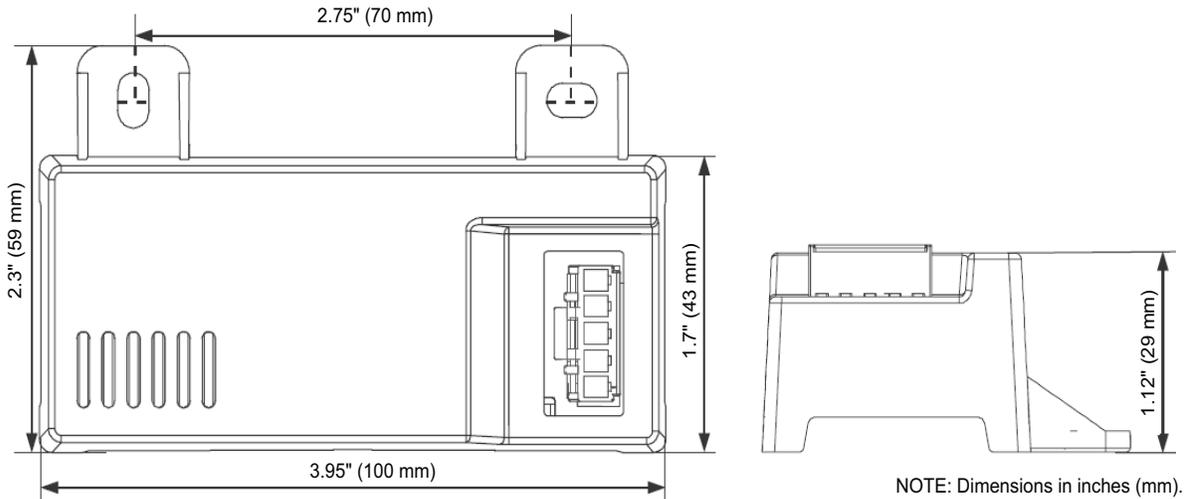
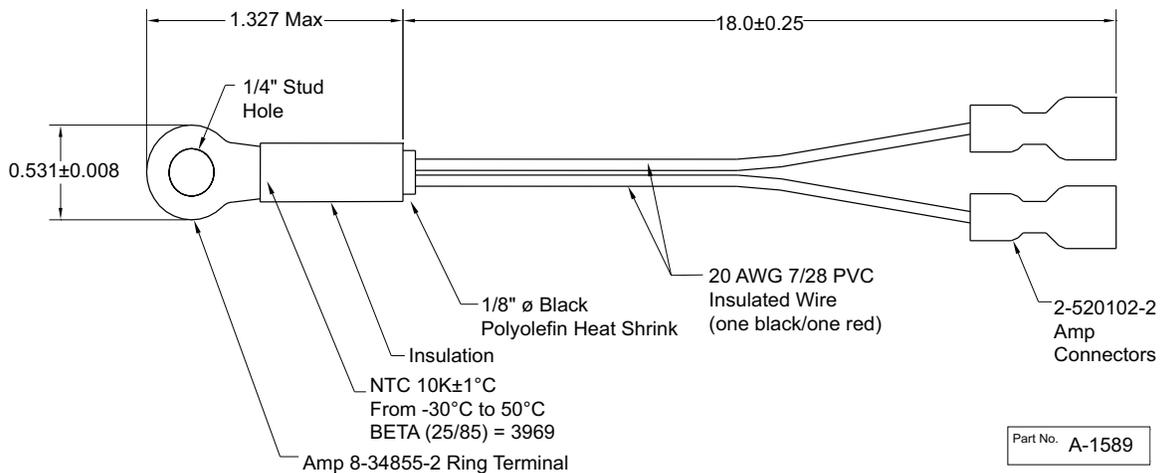
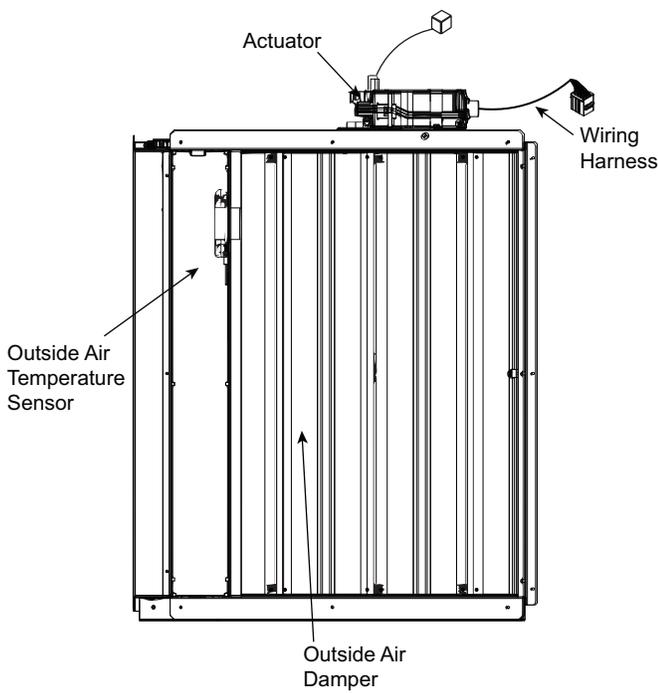

Fig. 80 — HH57LW001 Dimensional, Connection and Switching Information
Fig. 81 — HH79NZ039 Dry Bulb and Mixed Air Sensor Wiring
Fig. 82 — EconomizerONE Component Locations (CRECOMZR108A00 Shown)
When using the HH57LW001 enthalpy sensor (see Fig. 80) for outside air changeover, the existing HH79NZ039 dry bulb sensor (see Fig. 81) must be removed. The enthalpy sensor will be mounted in the same location as the dry bulb sensor (see Fig. 82). When the enthalpy sensor's OA (Outside Air) temperature, enthalpy, and dew point are below their respective setpoints, the outside air can be used for free cooling. When any of these are above the setpoint, free cooling will not be available. Enthalpy setpoints are configurable and create an enthalpy boundary according to the user's input. For additional details, see Fig. 83-84 and Table 31.
The optional enthalpy control sensor (P/N: HH57LW001) communicates with the POL224 economizer controller using the 5-wire harness, 48TC005213. The HH57LW001 sensor can be used as a single outside air enthalpy, a differential return enthalpy, or a differential return temperature sensor. Refer to the base unit control wiring diagrams found earlier in this book to wire the HH57LW001 enthalpy sensor for each option. Use Fig. 80 and Table 33 on page 61 to locate the wiring terminals for each enthalpy control sensor.
Economizers are shipped standard with an HH79NZ039 outside air dry bulb sensor (see Fig. 81). System default setting (high temp limit) is 63°F (17°C) and has a range of 48°F to 80°F (9°C to 27°C). Sensor is factory installed on economizer.
If installing the optional HH57LW001 enthalpy sensor, the HH79NZ039 dry bulb outside air sensor must first be removed. Wire sensor to harness 48TC005213 and the (5) wires from the harness to the EconomizerONE harness in the return air chamber. Harness 48TC005213 has a 5-pin plug that connects directly to the HH57LW001 enthalpy sensor. Refer to the base unit control wiring diagrams earlier in this book for wiring connections. Refer to Fig. 80 and Table 33.